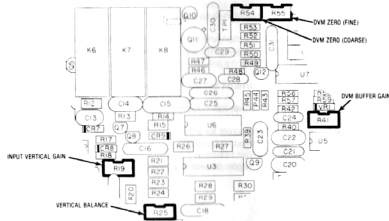

Figure 5-13. Front Panel Interface Alignment Points
5. Adjust the Input Vertical Gain Potentiometer on the Front Panel Interface Board (Figure 5-13) for a 6 cm p-p sinewave on the CRT. (Use the front panel Position Controls to center the waveform on the CRT.)
3. Adjust the DVM Zero (Coarse) and the DVM Zero (Fine) Potentiometers on the Front Panel Interface Board (Figure 5-13) for a zero reading on the DVM Display.
4. Adjust the Coarse DVM Zero and the Fine DVM Zero on the Front Panel Interface Board (Figure 5-13) until the external DVM reads 0 \pm 0.5 millivolts DC.
5. Remove the short circuit on the DVM input jack and apply approximately 0.900 volts DC from an external power supply. The voltage between TP2 and TP9 of the Scope/DVM Control Board should be within \pm 1 mV of the voltage at the front panel DVM input jack. If the unit fails this test, adjust the DVM Buffer Gain on the Front Panel Interface Board (Figure 5-13) until the above two voltages are equal.